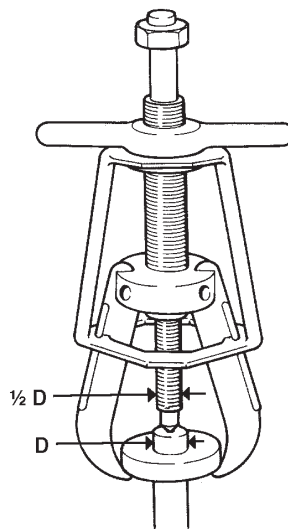

Figure 2, Relative Size of Center Bolt versus Diameter of Shaft
- The mechanical puller's center bolt diameter must be at least one half as large as the diameter of the shaft from which the object will be removed. (See figure 2.)